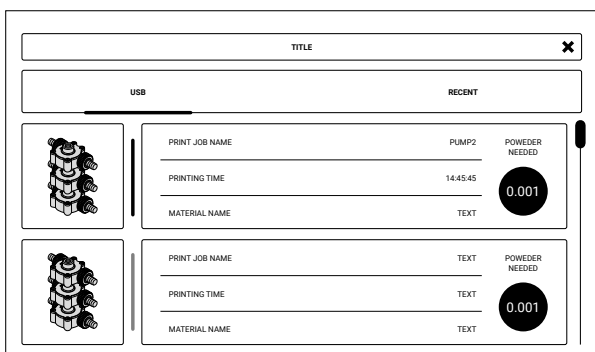

Fig. 6.1 Loading the file.
4. Choose the new file (**USB**) or recently used file (**RECENT**) (fig. 6.1).